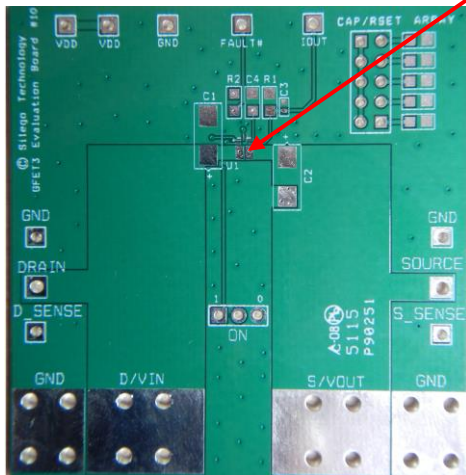

Figure 3. SLG59M1717V Evaluation Test Board
Please note how the VIN and VOUT pads are placed directly on the power planes in Figure 3, which minimizes the RDS(ON) associated with long, narrow traces. The VIN and VOUT pins dissipate most of the heat generated during high-load current condition. The layout shown in Figure 3 is illustrating a proper solution for heat to transfer as efficiently as possible out of the device.